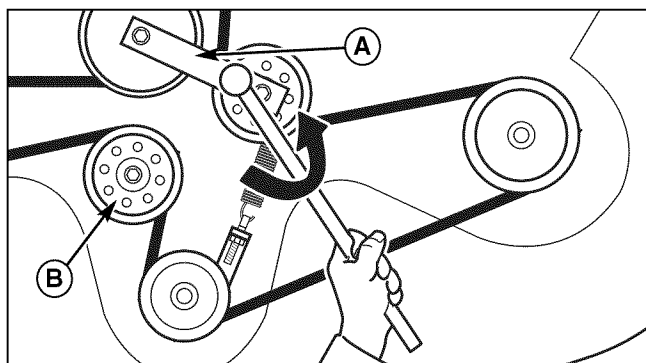

Figure 47. Release Belt Tension
1. **54" Models Only:** Using a 1/2" breaker bar, place the square end in the square hole located in the idler arm (A, Figure 47). Carefully rotate the breaker bar COUNTER-CLOCKWISE, which will relieve the tension on the belt exerted from the idler arm. Slide the belt off the stationary idler pulley (B).